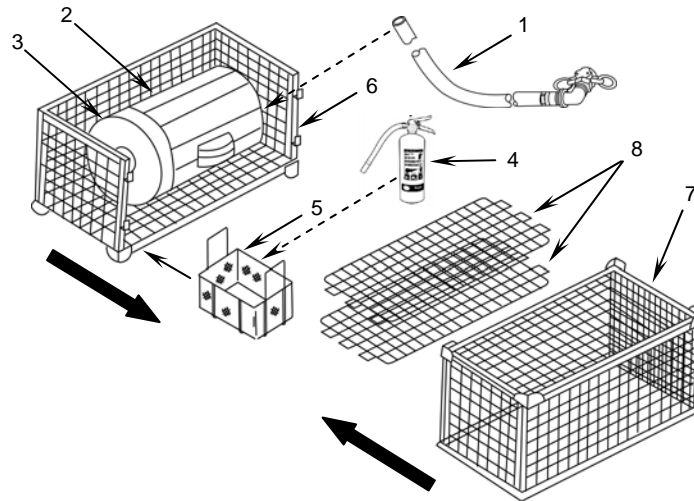

Figure 16. Packing a Storage Rack Assembly.
- a. Place the single sink drain hose assembly (**Figure 16, Item 1**) into one waste receptacle (**Figure 16, Item 2**) and cover with lid (**Figure 16, Item 3**).
- e. Wrap the fire extinguisher (**Figure 16, Item 4**) in barrier material and place into an immersion rack (**Figure 16, Item 5**).
- f. Place the packed waste receptacle and immersion rack into one storage rack assembly (**Figure 16, Item 6**).
- g. Position another empty storage rack assembly (**Figure 16, Item 7**) close to the packaged one.
- h. Install two shelves (**Figure 16, Item 8**) as low as possible into the empty storage rack assembly (**Figure 16, Item 7**).
- i. Use two-man lift (one man on each end), carefully rotate the two-shelved storage rack (**Figure 16, Item 7**) and (**Figure 16, Item 8**). The bottom is now top.